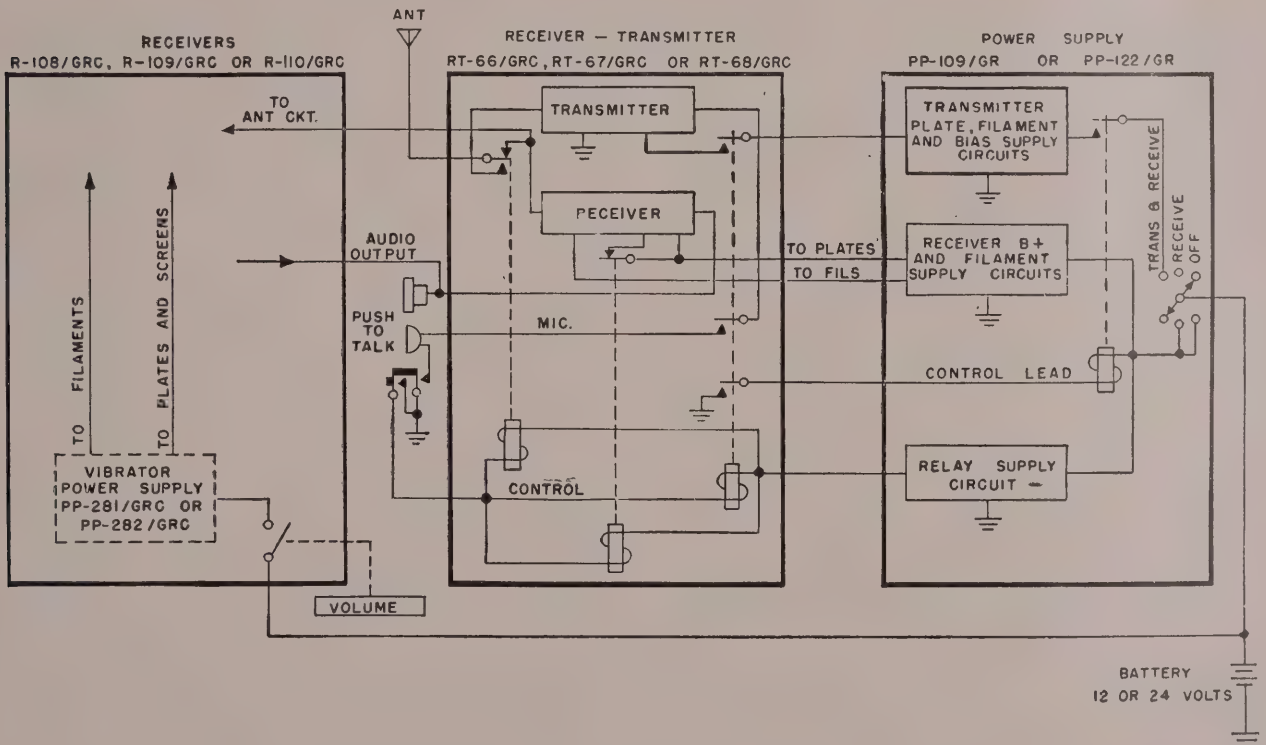

Figure 37. Basic system block diagram.
with speech-input and monitoring facilities, as shown in figure 37. The output of the auxiliary receiver parallels the output of the receiver section of the receiver-transmitter. These basic units are the essential parts of the system. The power supplies, cables, mountings, and other accessory equipment (fig. 3) are supplied to make the basic unit perform its function of transmitting or receiving.
d. When the switch in the receiver-transmitter power supply is in the RECEIVE position (fig. 37), voltage is supplied to the B+ and filament supply circuits in the receiver. The receiver is completely operative but it is impossible to transmit. When the same switch is in the TRANS & RECEIVE position, and the push-to-talk button is pressed, all the relays in the receiver-transmitter are activated by the completion of the relay supply circuit to ground. One relay switches the antenna from the receiver section to the transmitter section. Another relay removes the voltages from some of the receiver plates and filaments. A third relay grounds the control lead of a relay in the power supply, which in turn supplies voltage for the transmitter plate, filament, and bias-supply circuits. This third relay in the receiver-transmitter also closes the microphone circuit to the transmitter and applies power to the transmitter.
e. When the VOLUME control (fig. 37) in the auxiliary receiver is turned clockwise, the battery voltage is supplied to the plug-in power supply unit within the auxiliary receiver (Power Supply PP-281/GRC or PP-282/GRC for 12-volt or 24-volt operation, respectively). Voltage is then supplied to the filament and B+ circuits in the auxiliary receiver. The